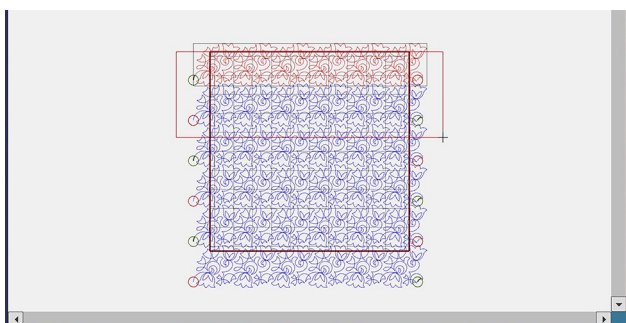

Fig. 51
13.  Select Row 2, then select Reverse Sew. This reverses the start/end points so that the Q-matic can stitch back and forth without stopping (Fig. 51). Repeat for Rows 4 and 6 (and any other alternate rows you added to your quilt).